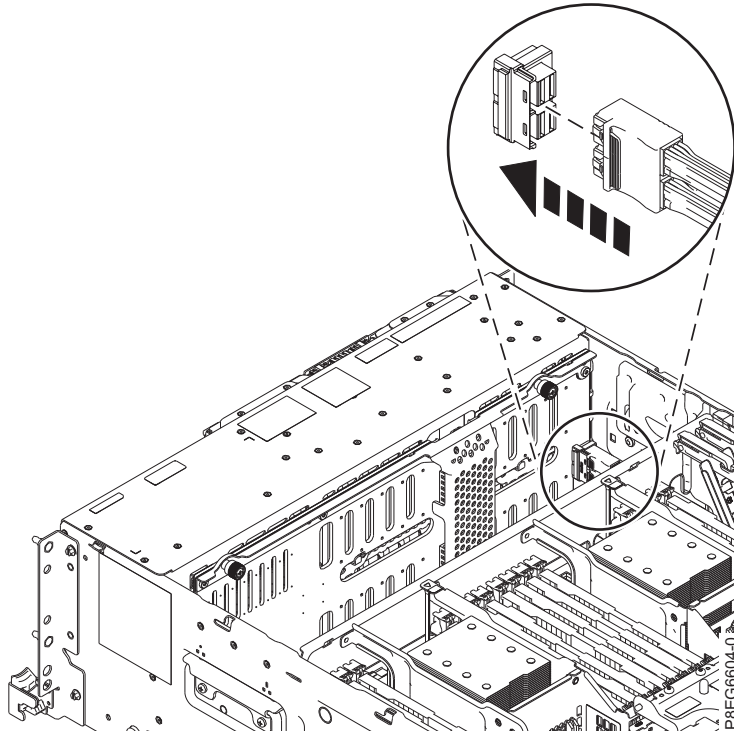

Figure 8. Reconnecting the SAS cable to the disk drive backplane
7. Reconnect the front SAS cable to the connector port on the disk drive backplane, as shown in Figure 8 on page 11. Push the connector in until the connector latch clicks. Arrange the cables against the side of the chassis.